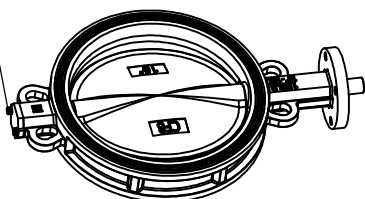
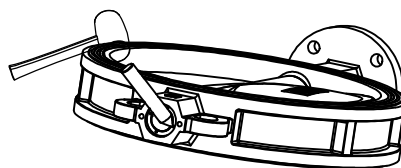

Figure 10
Figure 11
(1) Remove the bolts and bottom cover (as shown in Figure 10), align the packing gland bolt hole with a pun and strike to rotate the packing gland counter-clockwise to compress the packing (as shown in Figure 11), when there is no leakage, reinstall the parts back to the body.